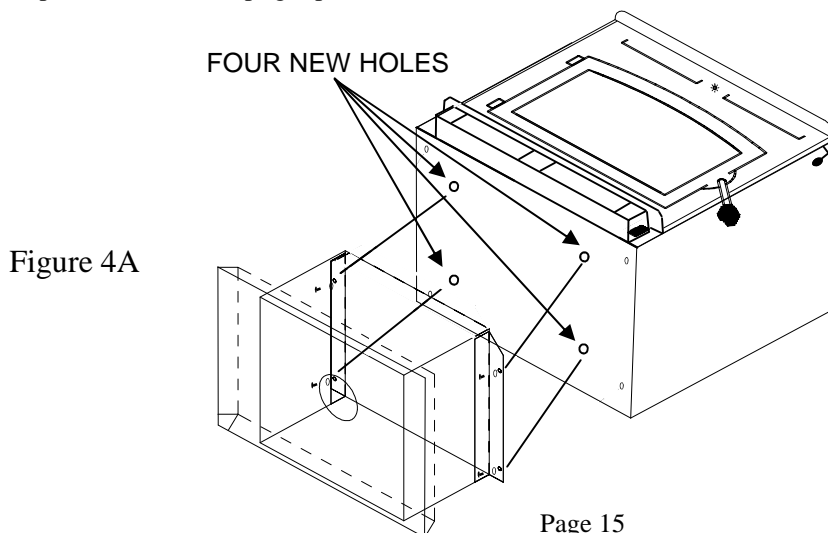

Figure 4A
8. Obtain four 3/16" self-tapping screws and secure stand to heater. (See Figure 4A)